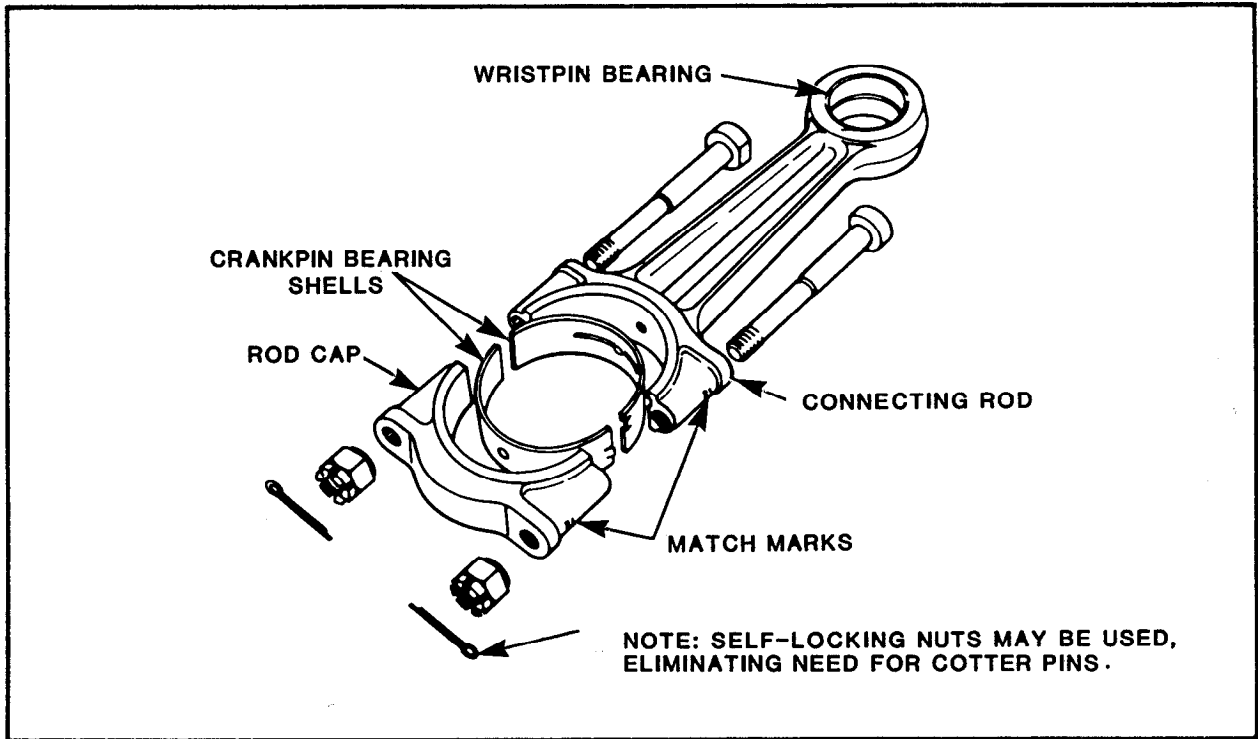

FIGURE 2-4. Connecting Rod Assembly
8.6.2 Vertical Compressor Bearings. Vertical compressors are usually fitted with automotive type crankpin bearings with babbitted inserts (figure 2-4). These bearings are not adjustable and must be replaced. When replacing bearing inserts or bushings, make sure all parts are thoroughly clean and that the oil hole is aligned with the oil hole in the connecting rod.